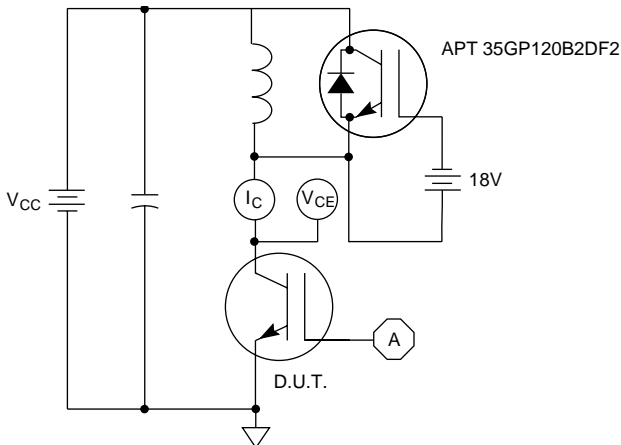

Figure 21, Inductive Switching Test Circuit
⑤ E_{on2} is the clamped inductive turn-on energy that includes a commutating diode reverse recovery current in the IGBT turn-on switching loss. A Combi device is used for the clamping diode as shown in the E_{on2} test circuit. (See Figures 21, 22.)
⑥ E_{off} is the clamped inductive turn-off energy. (See Figures 21, 23.)